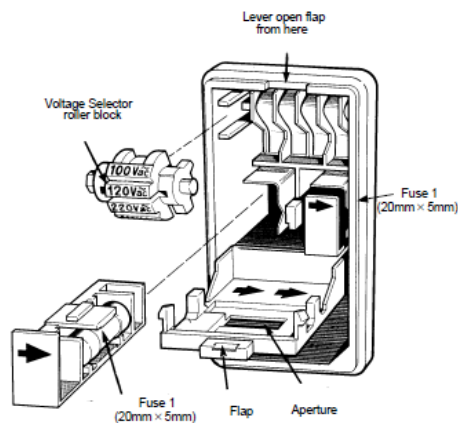

Figure 1
- c. Check the fuse in the rear panel of the 1287A. The fuse can be found and checked as shown in Figure 1, below. Should the fuse be blown, replace and retry. If the fuse fails again, please contact help at AMETEK®/Solartron Analytical at <http://www.ameteksi.com/contact-us/contact-technical-support>.